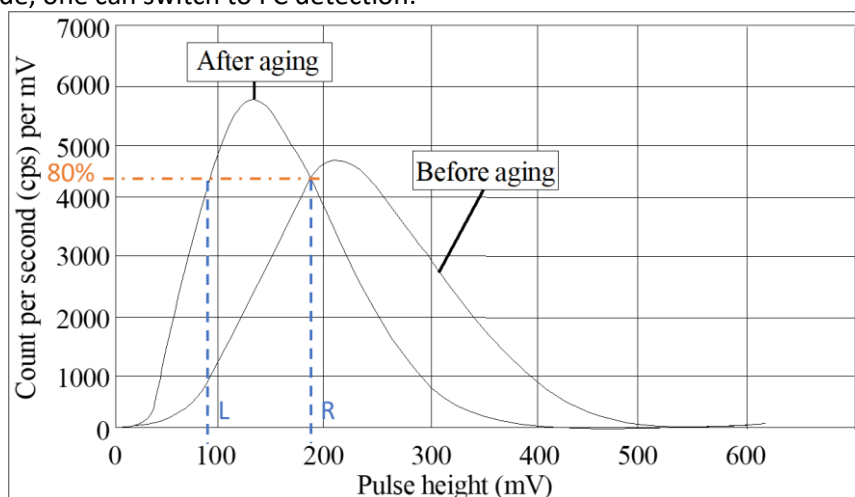

Figure 88: Discriminator threshold
When an EM is getting older (meaning the EM has been used to detect ions), its gain (*output electrons per ion*) decreases (Figure 88), leading to a  $\gamma_{EM}$  decrease if the EM HV is kept constant. For recovering the original gain and yield, the EM HV must be increased.
Figure 88 shows the evolution of the pulse height distribution curve with use. It can be characterized by two parameters:
- The curve width, which can be translated by the ratio (R/L) between the pulse height at 80% on the right flank and the one on the left flank of the curve as shown in Figure 88.